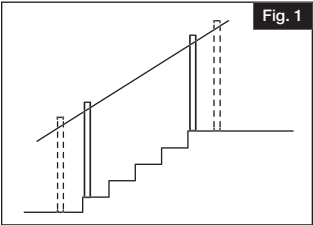

Fig. 1
- a. Place bottom rail across post opening leaving equivalent spacing from last baluster to post on each end. Make sure there is even spacing from baluster hole to post (Fig. 1)
- Slide metal spacer pieces over the end of top and bottom rail channels (Fig. 1).
- Taller posts (sold separately) may be needed for either bottom or top of the stairs, depending on the angle of the stairway or the location of where the posts will be installed relative to the nose of the stair tread. Bottom stair posts may also be moved out from bottom step (Fig. 1).
- Cut out bracket template from side of post box. Refer to angle bracket components (Fig. 1).